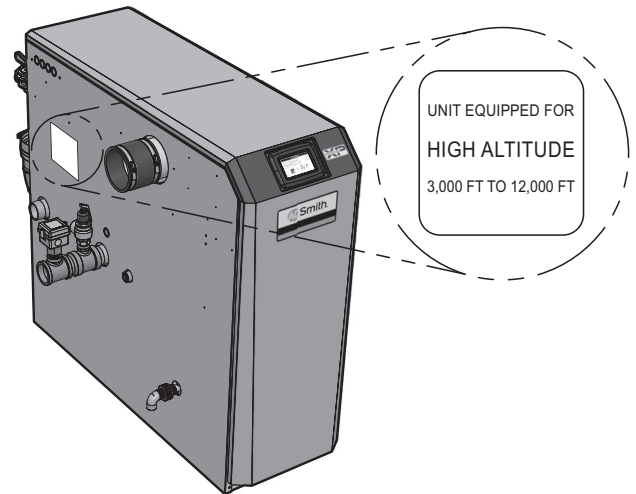

Figure 1. High Altitude Label Location
3. High altitude XP water heaters are equipped to operate from 3,000 to 12,000 feet only. The water heater will de-rate by 2% for each 1,000 feet above sea level. High altitude models are manufactured with a different control module for altitude operation, but the operation given in this manual remains the same as the standard models. A high altitude label (as shown in Figure 1) is also affixed to the unit.